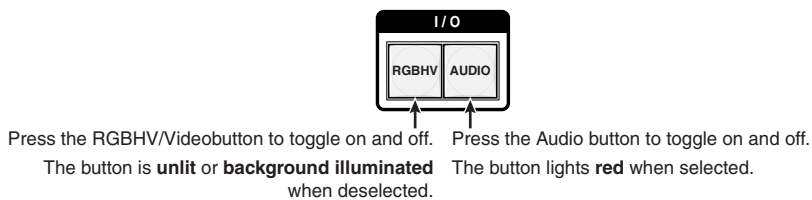

Figure 3-17 — Select audio only
2. To select audio only for the tie, if necessary, press and release the RGBHV (CrossPoint 450 Plus switchers) or Video (MAV Plus video switchers) button and the Audio button (figure 3-17).